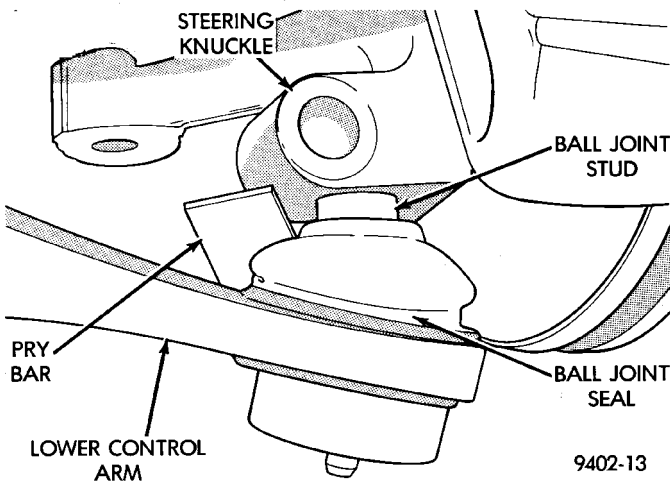

Fig. 35 Ball Joint Separation From Steering Knuckle
(5) Using a pry bar, separate steering knuckle from ball joint stud (Fig. 35). **Use caution when separating ball joint stud from steering knuckle, so ball joint seal does not get cut.**